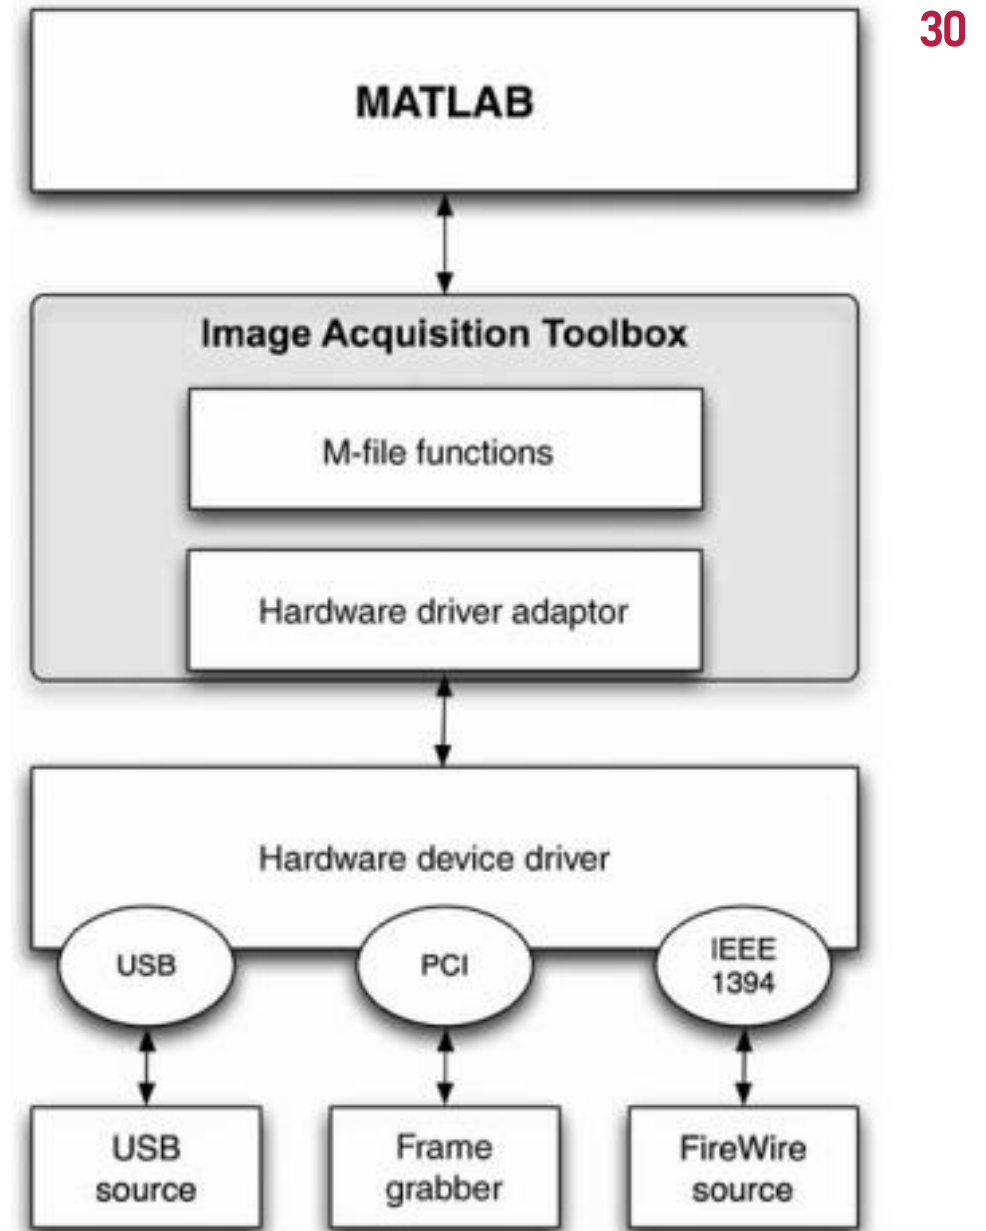

FIGURE 5.11 The main components of the MATLAB Image Acquisition Toolbox.
- The MATLAB Image Acquisition Toolbox (IAT) is a collection of functions that extend the capability of MATLAB, allowing image acquisition operations from a variety of image acquisition devices, from professional-grade frame grabbers to USB-based webcams. The IAT software uses components called *hardware device adaptors* to connect to devices through their drivers (Figure 5.11).